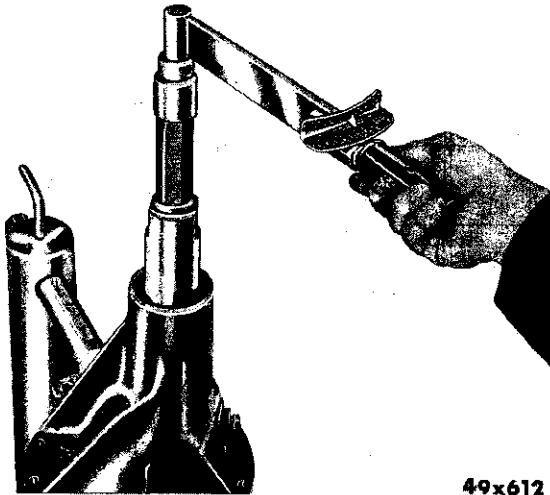

Fig. 19—Checking Preload Torque (inch-pounds)
(5) Install the tool compression sleeve (SP-535) (square end out), centralizing washer (SP-534) and main screw nut (SP-533). Turn the carrier in the stand to bring the nut on top (Fig. 19).
(6) Tighten the toolnut to 240 foot-pounds Torque, using holding Tool C-3281 on the compression sleeve to hold the assembly in several positions to make a complete revolution while tightening. Remove the holding tool and rotate the assembly several turns in both directions to align the bearing rollers. Recheck the torque to 240 foot-pounds (torque may have diminished as the bearing rollers were aligned by rotating).